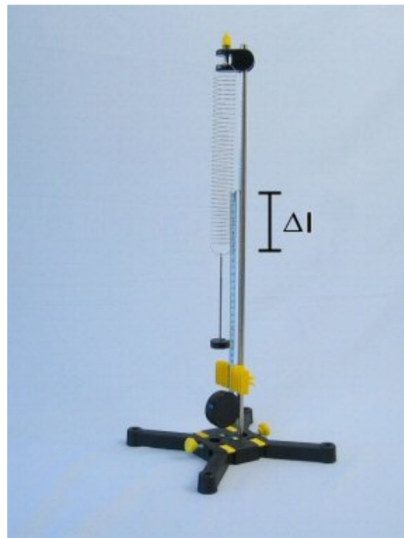

Fig. 10
- Hang the weight holder ($m = 10 \text{ g}$) on the hooked end of the spring and record the extension Δl (Fig. 10).